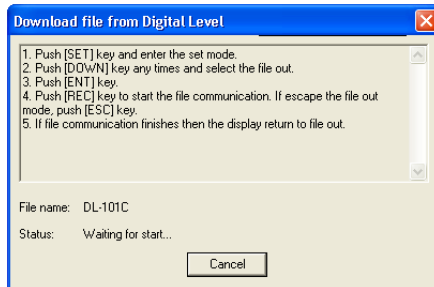

Figure 3-50. Topcon Digital Level Instructions – Preparing for Import
- 7. Follow the on-screen steps to prepare the digital level (Figure 3-50). Select the desired file in the Digital Level to download to the computer.
8. Follow the on-screen steps to prepare the digital level (Figure 3-50). Select the desired file in the Digital Level to download to the computer.